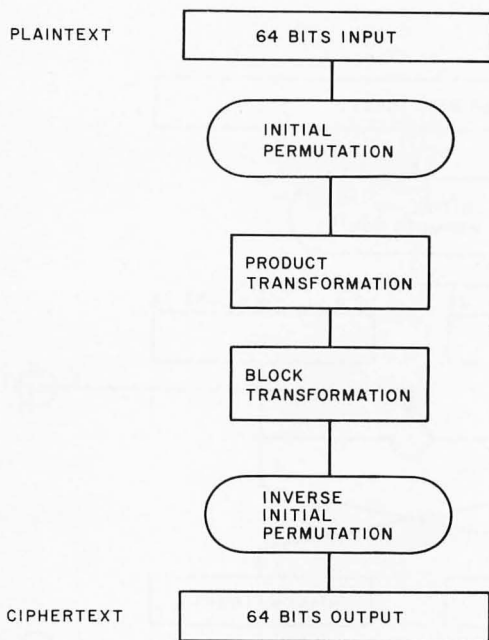

Figure 1: An overview of the Standard Data Encryption Algorithm.
A very simple diagram of the operations involved in the encryption algorithm is shown in figure 1. The input (plaintext) is first subjected to an initial permutation operation, which reorders the bits. Most of the work of the encryption is done in the box labeled product transformation. Details of this transformation will be described later. The block transformation is a simple exchange of the left and right 32 bits of data. The last step is a permutation operation which is the inverse of the initial permutation operation. The output of this step is the *ciphertext*.
A more detailed diagram of the encryption algorithm is provided in figure 3. The basic operations are quite straightforward. What is shown is basically an expansion of the product transformation box from figure 1. Let's look at the basic operations involved after the initial permutation. The 64 bits of permuted input are split into two groups of 32 bits each, called left (L) and right (R). The subscripts on L and R indicate the iteration of the algorithm. The first thing that occurs is the generation of K1. K1 is known